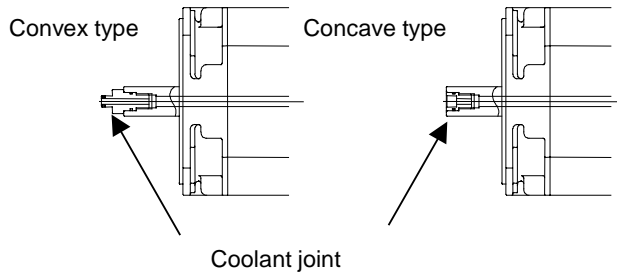

Fig. 4 Example of a coolant joint
- <3> Check whether coolant leaks out from the coolant joint of the coupling. (See Fig. 4.)